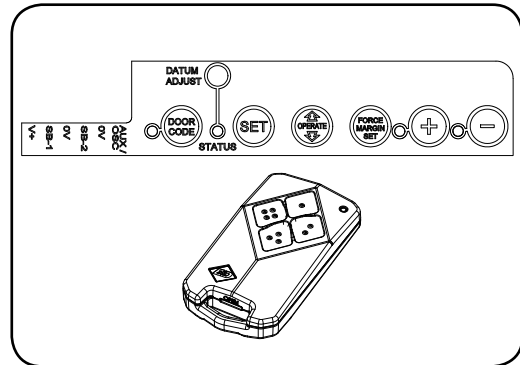

Fig. 29
- Press DOOR CODE button three times. The DOOR CODE LED will illuminate and the courtesy light will flash slowly (once every two seconds) to indicate Vacation learning mode is active. (Fig. 29)
- Press the same transmitter button again. The DOOR CODE LED will illuminate for one second and then go out, and the courtesy light will also switch off. This indicates the code has been stored (Fig. 29).